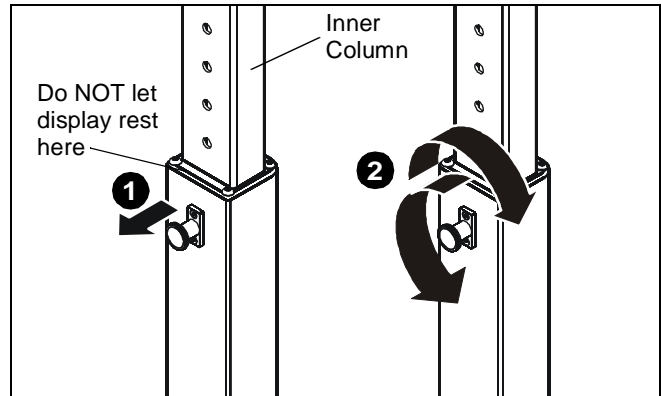

Figure 14
1. Adjust the cart or stand to the desired height by slightly lifting the inner column, pulling out knob on the center post and turning 90° in either direction to disengage the locking mechanism. (See Figure 14)
2. Raise or lower the center post, then turn the knob 90° either direction to engage the knob and lock the cart at desired height. (See Figure 14)
IMPORTANT ! : Set the height of the cart or stand so the display does NOT rest on the lower part of the center post. (See Figure 14) Always set the height so the knob is engaged in a hole in the center post.